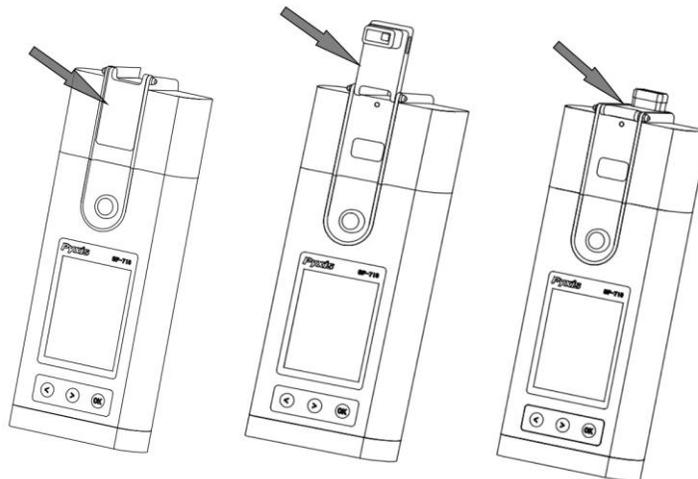

Figure 4. Turn on pH/ORP module with the seal
1. Lower the rubber seal down to touch the front face of the pH/ORP module (Figure 4). This is to power on the module. The indicator light of the module will be **green** and flashing when powered on. After the module is turned on, the seal can be positioned anywhere desired. If the module battery capacity is low, the indicator light will flash **red**.